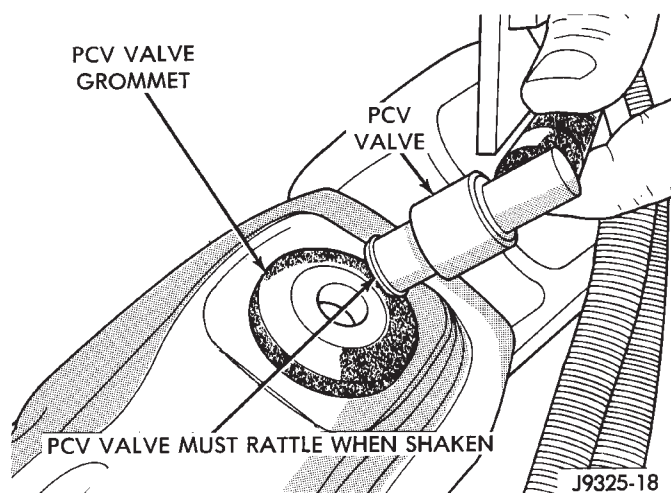

Fig. 13 Shake PCV Valve—Typical
(4) Turn engine off and remove PCV valve from valve cover. The valve should rattle when shaken (Fig. 13).
(5) Replace the PCV valve and retest the system if it does not operate as described in the preceding tests. **Do not attempt to clean the old PCV valve.**
(6) If the paper is not held against the opening in valve cover after new valve is installed, the PCV valve hose may be restricted and must be replaced. The passage in the intake manifold must also be checked and cleaned.
(7) To clean the intake manifold fitting, turn a 1/4 inch drill (by hand) through the fitting to dislodge any solid particles. Blow out the fitting with shop air. If necessary, use a smaller drill to avoid removing any metal from the fitting.